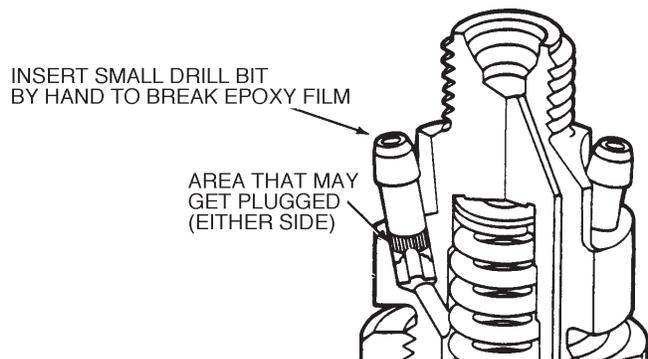

Figure 3-10. Fuel Injection Nozzle Blockage Check.
**Z. 6.2L INJECTION NOZZLE RETURN HOSE (Figure 3-10)**